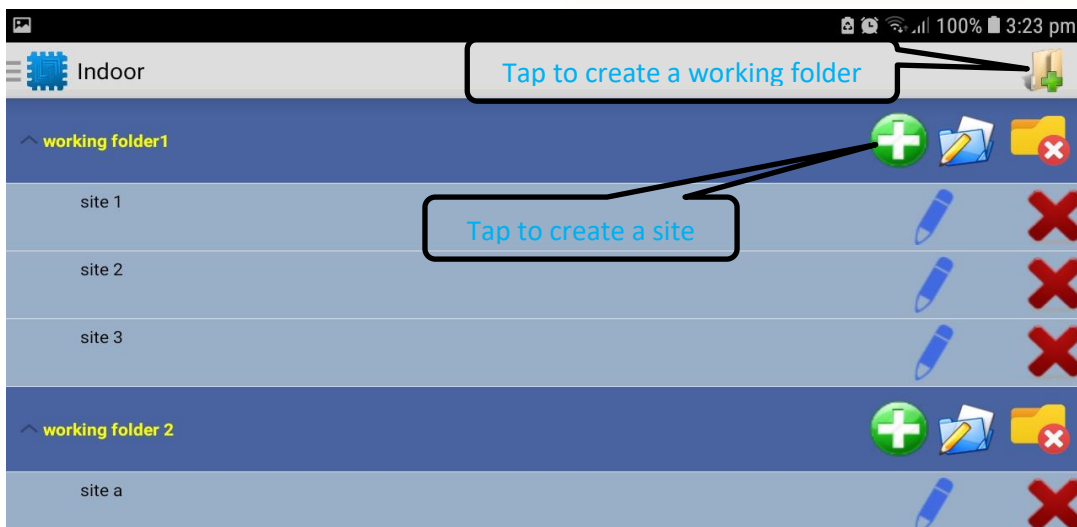

Figure 6: WalkView Session Manager
2. Create a new working folder this is where all the measurement data will be saved as depicted in Figure 6 below,